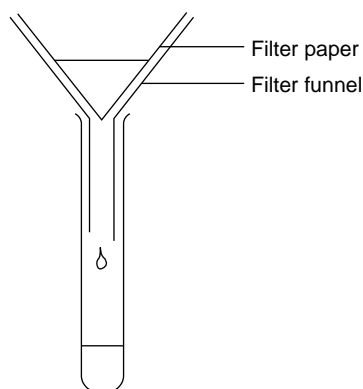

Fig 5
4. Filter your solution into a test tube, *Figure 5*. The solution should be clear. If it is not, filter it again. Use Universal Indicator paper to find the pH of the solution.